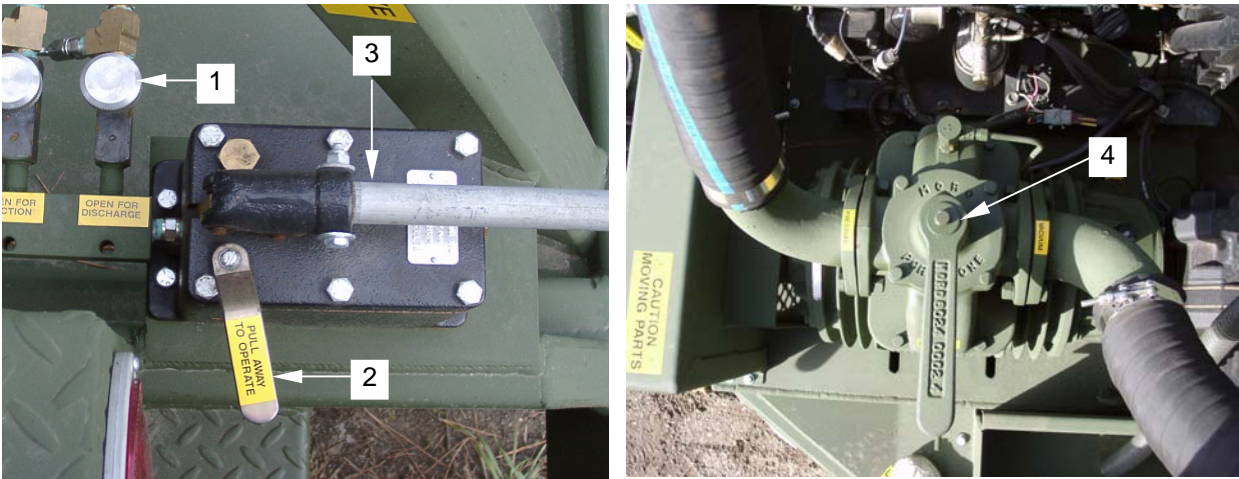

Figure 36. Hydraulic Valve Controls and Vacuum Pump Control
- a. Open the drain valve (DISCHARGE) hydraulic control knob (**figure 36, item 1**).
- b. Place hydraulic pump selector lever (**figure 36, item 2**) so it is pointing away from the pump handle (**figure 36, item 3**).
- c. Operate hydraulic hand pump (**figure 36, item 3**) until drain valve fully opens.
- d. Place vacuum pump control handle (**figure 36, item 4**) in neutral position.